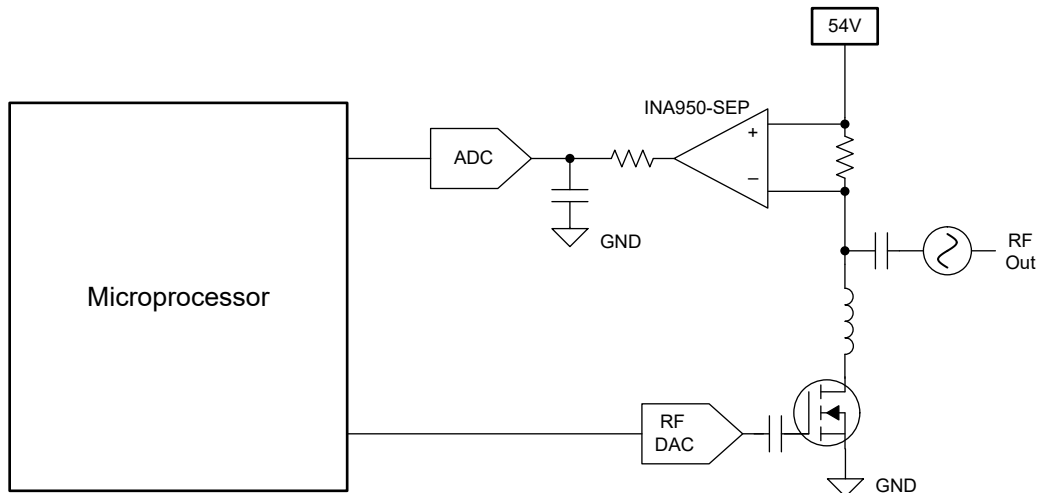

Figure 7-2. Current Sensing in a PA Application
The INA950-SEP is a unidirectional, current-sense amplifier capable of measuring currents through a resistive shunt with shunt common-mode voltages from 2.7V to 80V. Figure 7-2 shows the circuit configuration for monitoring current in a high-side radio frequency (RF) power amplifier (PA) application.